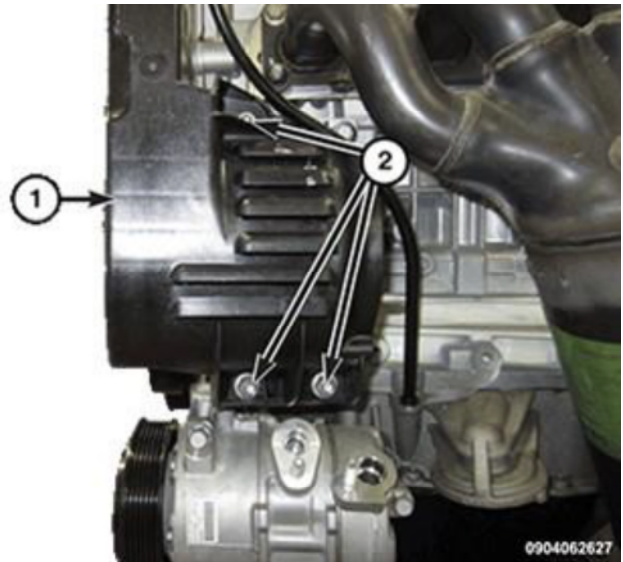

Figure 9 – Belt Guard
16. **(VM) Ram ProMaster City Only:** Remove three nuts (2) and reposition the belt cover (1) (Figure 9).
47. **(VM) Ram ProMaster City Only:** Install the belt cover (1) with three nuts (2) then tighten the nuts to 8 N·m (71 in. lbs.) (Figure 9).